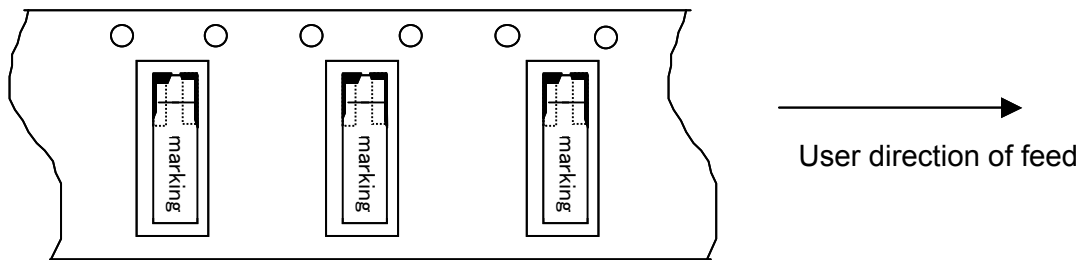

Fig. 1
- (1) Components shall be placed in tapes in such manner as to assure that marking of the components is visible as per Fig. 1
【 Figure 1】
- [6] Sample of the label display (display department, please refer to 【Figure 1】 【Figure 2】)